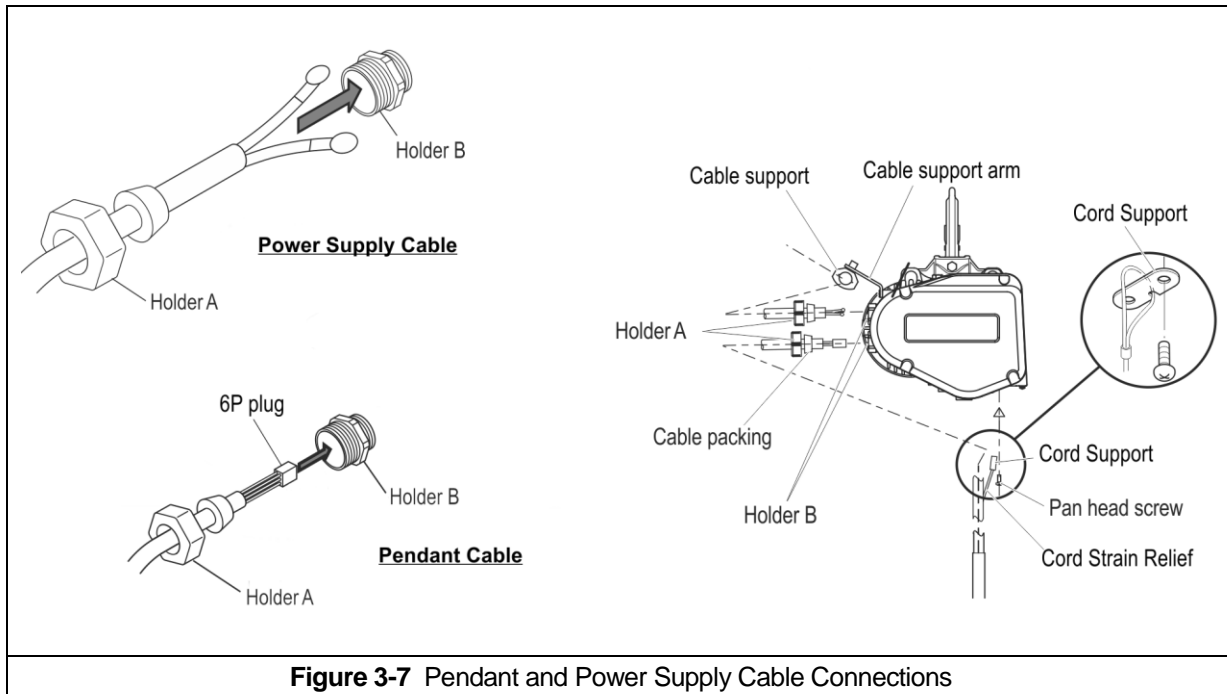

Figure 3-7 Pendant and Power Supply Cable Connections
- Refer to **Figure 3-7**.
- Insert pendant cable (as shown in **Figure 3-7** with Holder A and Cable Packing) through Holder B which is installed in hoist body.
- Insert the Power Supply Cable (as shown in **Figure 3-7** with Holder A and Cable Packing) through Holder B which is installed in the hoist body.
- For a manual trolley the guide wire should be positioned slightly outside the hoist's Cable Support as shown in **Figure 3-7**.